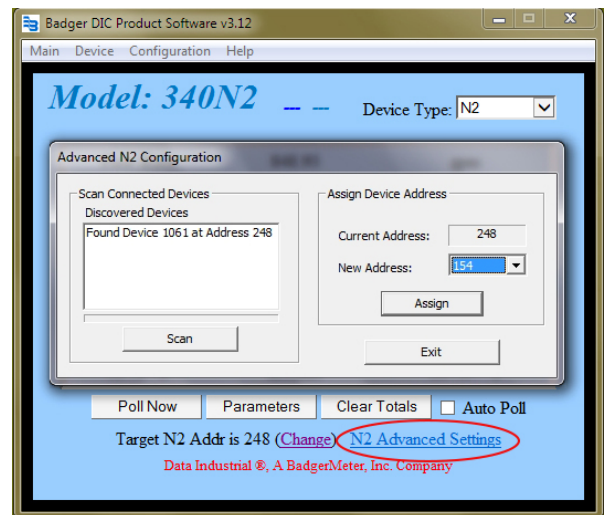
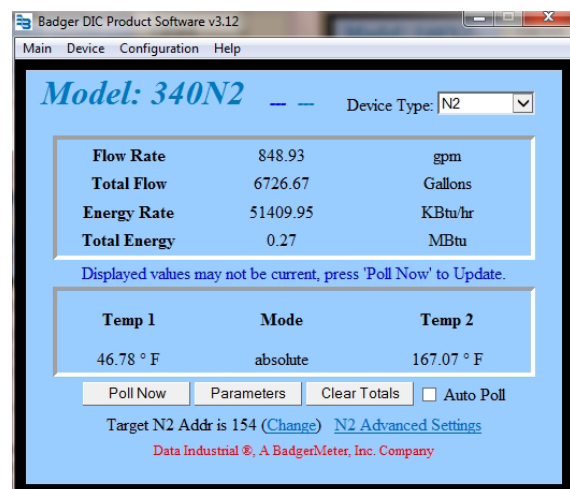

Figure 14: Scan Addresses
Figure 15: Poll Now
- If you do not know the Address of the current transmitter or other devices on the string that might be in conflict, select **N2 Advanced Settings** (*Figure 14*) to open the Advanced N2 Configuration window. Then click **Scan** to see the list of known Addresses.
When the Scan is complete, scroll down to see the last assigned Address. Then click the *New Address* drop-down menu to select the next Address number for the transmitter, and click **Assign**. The example in *Figure 14* shows **154** is assigned. Click **Exit** to close the N2 Advanced Settings window. The new Address number you assigned will display at the bottom of the screen in the *Target N2 Address* field. See *Figure 15*.
- When the Device Type, Comm port and Address have been properly selected, click the **Poll Now** button to establish communication (*Figure 15*).
Program the transmitter using the diagram in *Figure 15* as a reference.